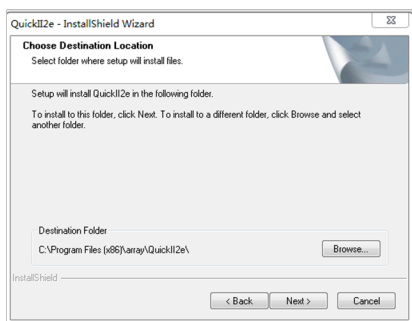

Fig 1.4
3. Enter the next frame which can set the installing route in fig. 1.4, you can click “browse” button to change the installing route (the default is C:\program files\Array\QUICK II).
- Click the (Back) button with the left mouse button, you will return to the previous installation screen, as shown in Figure 1.4.